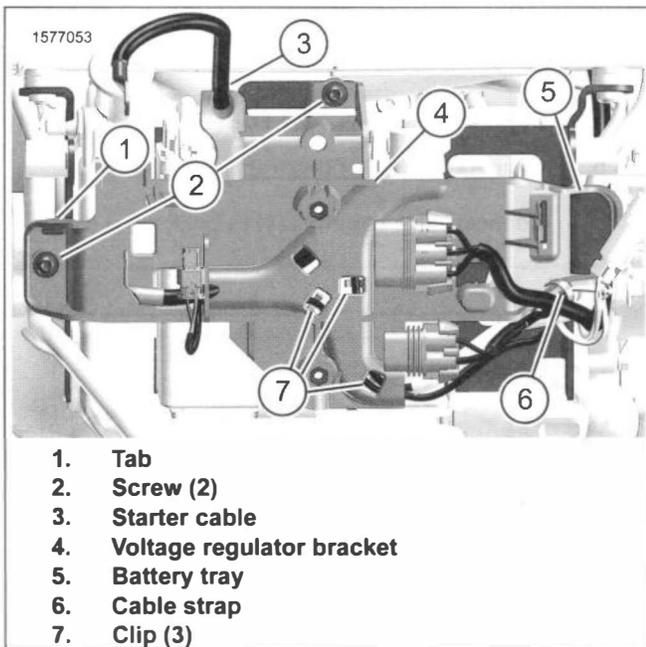

Figure 8-22. Voltage Regulator Bracket
1. See Figure 8-22. Remove voltage regulator bracket.
- a. Lift starter cable (3) from voltage regulator bracket (4).
- b. Remove cable strap (6).
- c. Remove screws (2).
- d. Slightly lift voltage regulator bracket at tab (1) and slightly swing out.
- e. Mark wires and lift from clips (7).
- f. Remove voltage regulator bracket from battery tray (5).
- e. Install screws (2). Tighten.
1. See Figure 8-22. Install voltage regulator bracket.
- a. Slide voltage regulator bracket (4) on battery tray (5).
- b. Install wires on clips (7).
- d. Hook tab (1) on battery tray bracket.